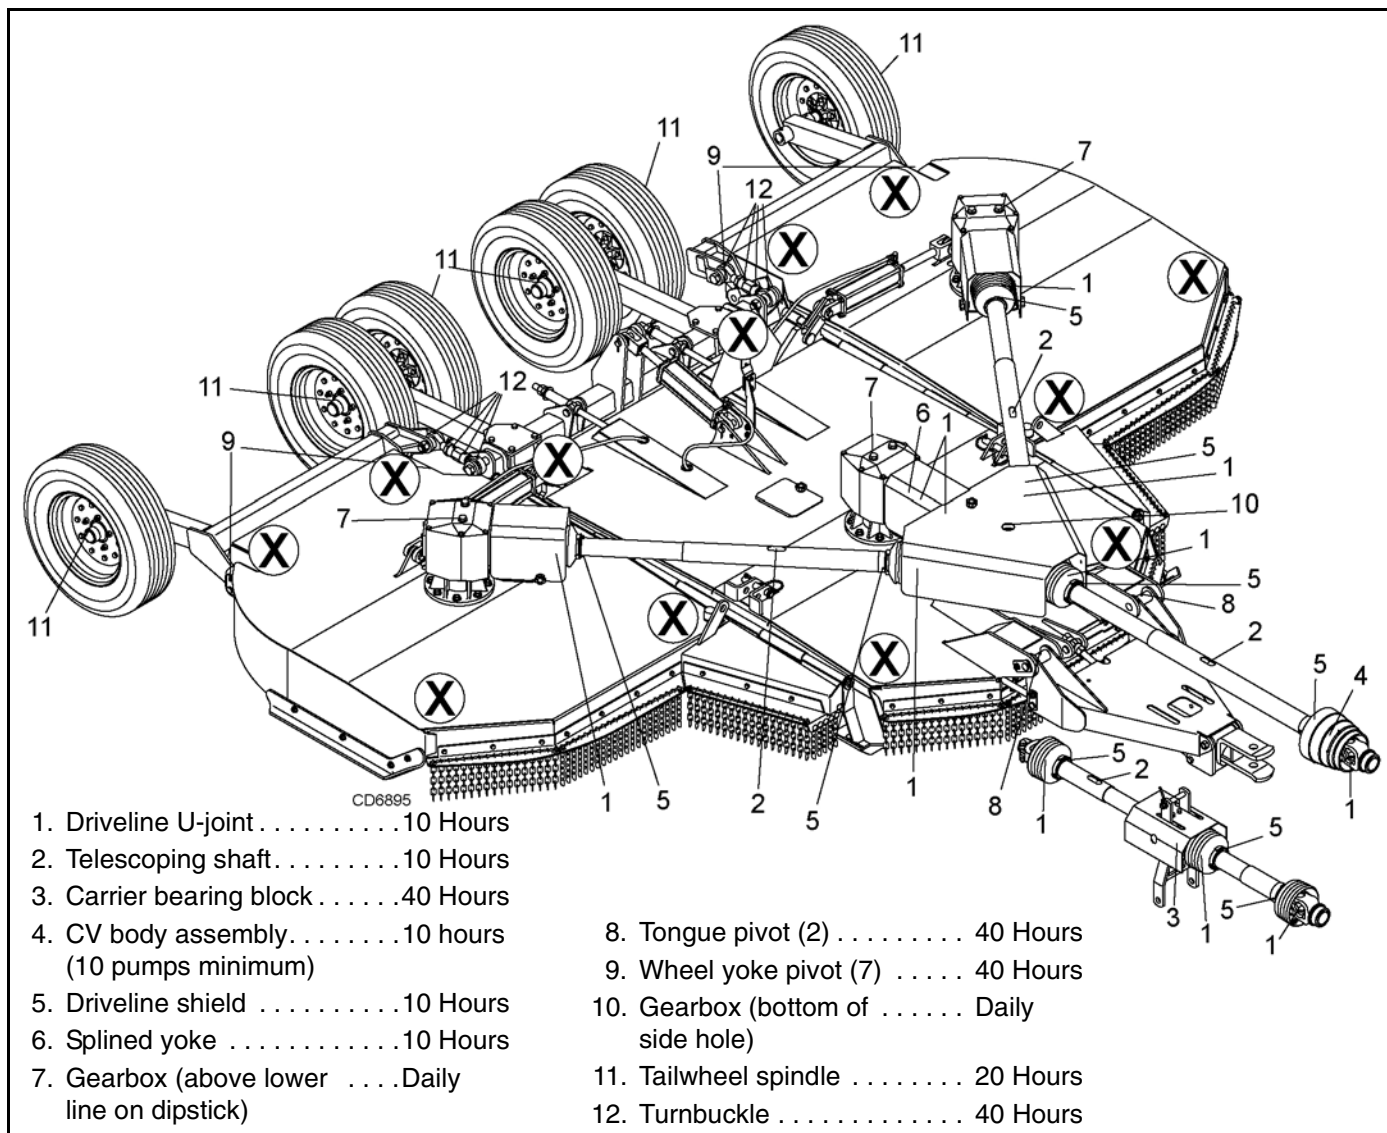

Figure 6. Jackstand Placement and Lubrication Points
1. Jackstands with a load rating of 1000 lbs. or more are the only approved blocking device for this cutter. Install jackstands (shown by Xs in Figure 6) under the cutter before working underneath unit.
See Figure 6 for lubrication points and frequency or lubrication based on normal operating conditions. Severe or unusual conditions may require more frequent lubrication.
2. Raise cutter and block securely (see Figure 6).
3. Open blade access cover and align crossbar assembly (10) with blade access hole in the cutter frame. Remove cap screw (53), blade pin lock clip (14), keyhole plate (13), and shims (11 & 12). Carefully drive blade pin (9) out of crossbar.